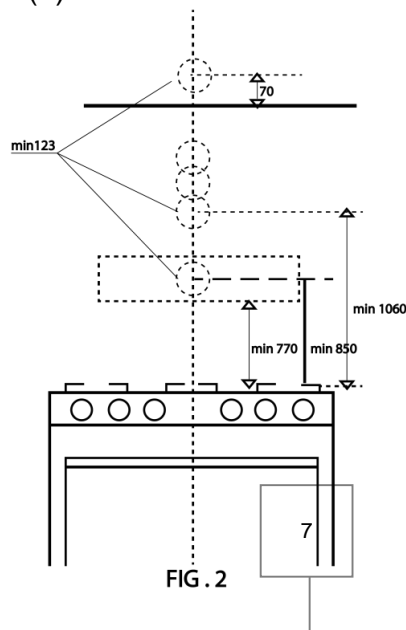

FIG. 2
1. As shown (Figure 2). Drill a hole of 133 mm diameter in the wall, in any case, check the position of the socket and observe if the cable of the appliance arrives.